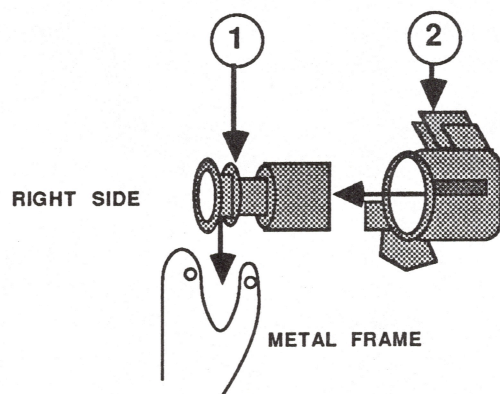

FIGURE 38
3. Position the platen bushing (see Figure 38, #1) into the frame on the right side of the printer. Slide the free lever (see Figure 38, #2) onto the bushing.